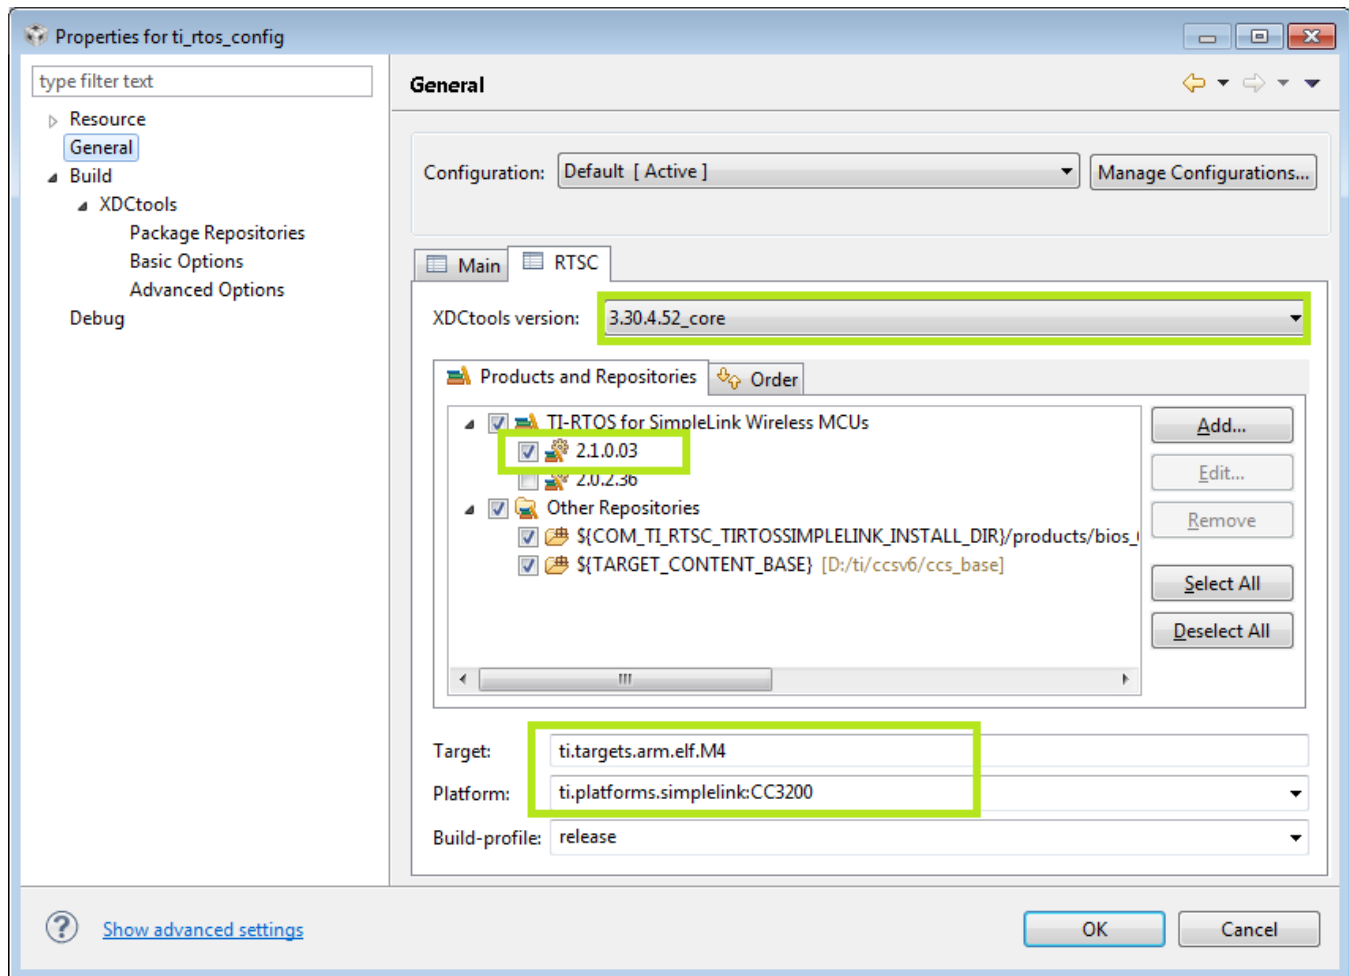

Figure 7. Properties for *ti_rtos_config*
4. Select the *ti_rtos_config* project in Project Explorer, and select *Project>Properties* from the menu. Setup the *ti_rtos_config* project configuration as shown in Figure 7. Select the latest versions of XDCtools and TI-RTOS for SimpleLink. Also verify the platform is selected as ti.platforms.simplelink:CC3200.